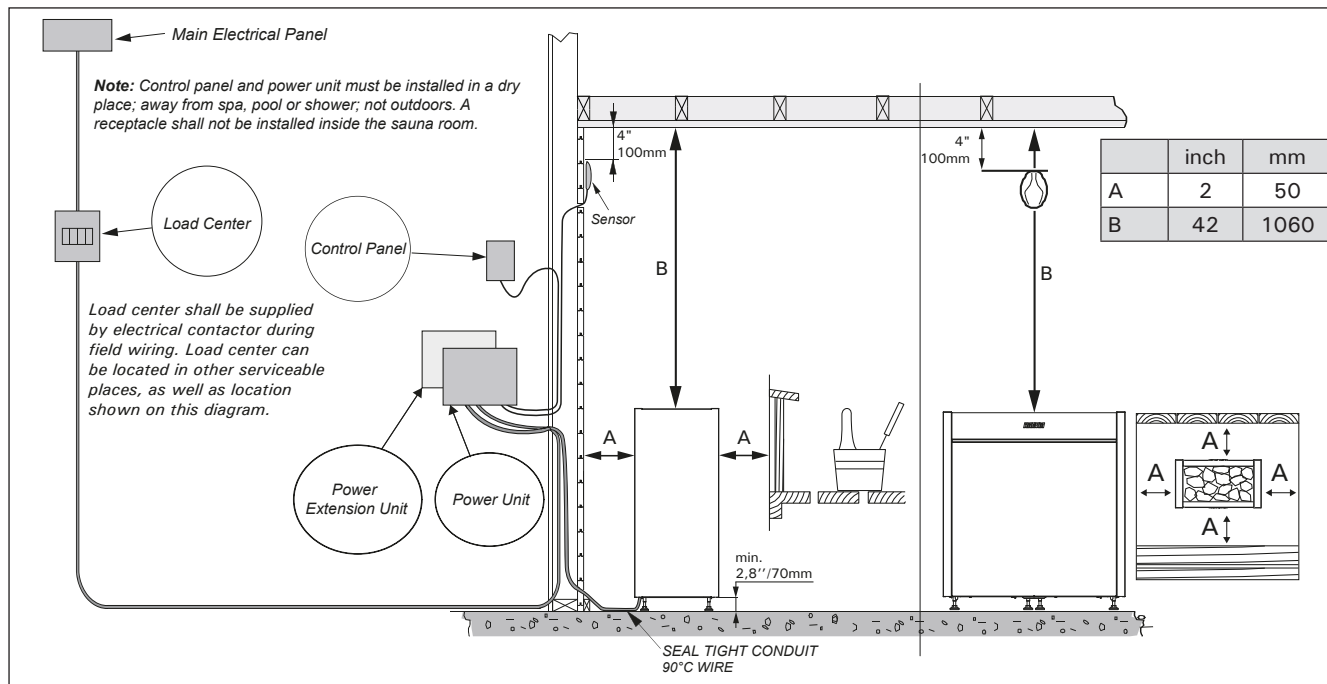

Figure 5. Sauna control / Minimum safety distances / Installing the temperature sensor
- Install the sensor (WX248), which comes with the heater, as shown in figure 5.